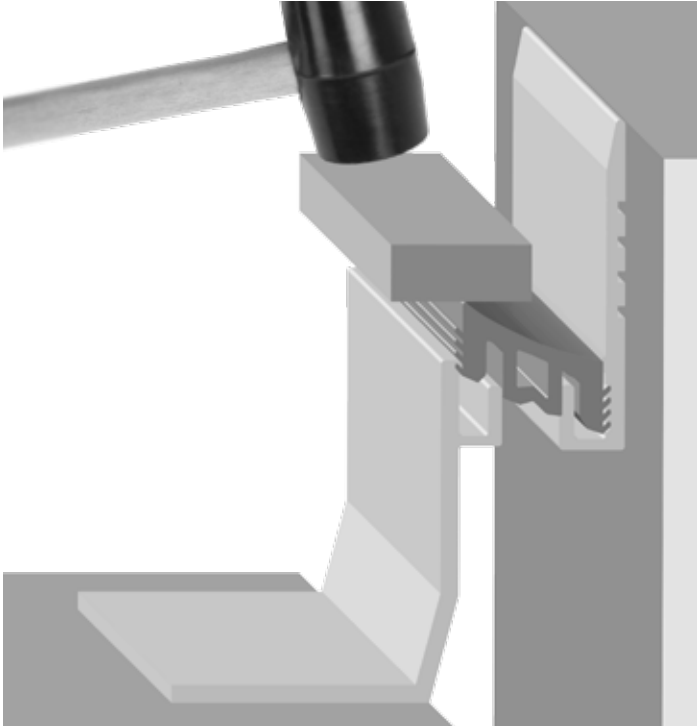

Figure 6—Seal Base Member Installed Position
- The base member should be completely on the substrate surface and not overhanging the joint. Ensure the base member is level with the finished floor (Figure 6).
- Using a wood block and mallet, lightly tap the face seal tab into the channel along the base members for the length of the joint (see Figure 6).